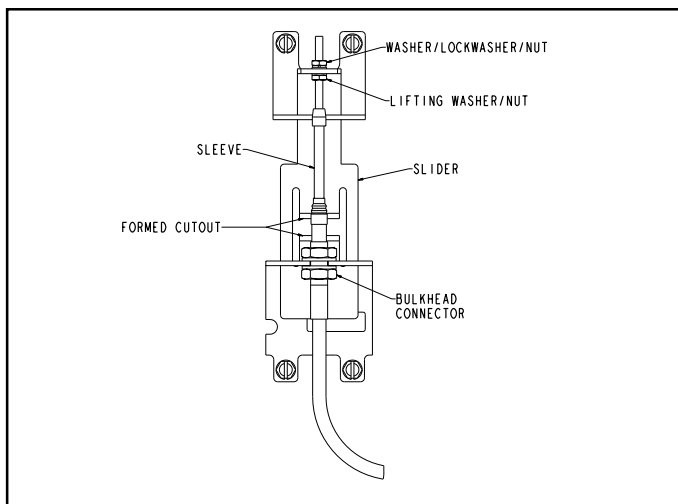

Fig. 1-3 K-Frame Actuator Mechanism
In the event a customer must disassemble the preassembled Flex Shaft handle mechanism, the following procedure must be followed before continuing with the "Installation" instructions. (See Fig. 1-3.)
8. Check operation of mechanism for ON, OFF, and reset. Check the reset position of the actuator mechanism, that the lifting nut and sleeve of shaft do not come in contact with each other (see Fig. 1-3). If they do, move bulkhead connectors accordingly. If mechanism functions incorrectly, repeat procedure or go to Adjustment Checklist.
Loosen the lifting washer/nut while tightening the washer/lockwasher/nut, two or three turns should be sufficient (see Fig. 1-3).
Note: Check the reset position of the actuator mechanism, that the lifting nut and sleeve of shaft do not come into contact with each other (Fig. 1-3). If they do, move bulkhead connectors accordingly.
For a K-Flexible Shaft Assembly, loosen the washer/lockwasher/nut on the end of the shaft while tightening the lifting washer/nut until breaker turns ON with positive action. Tighten both nuts and recheck for ON, OFF, and Reset positions (Fig. 1-3).
Note: Be certain after adjustment to have a minimum of 1 thread past the washer/lockwasher/nut assembly (Fig. 1-3).